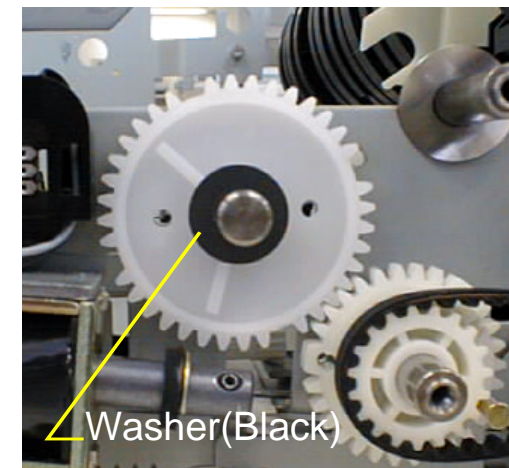

Figure 4-99. Setting a Washer(black)
14. Set a washer (black) on the same axis. (Refer to Figure4-99)